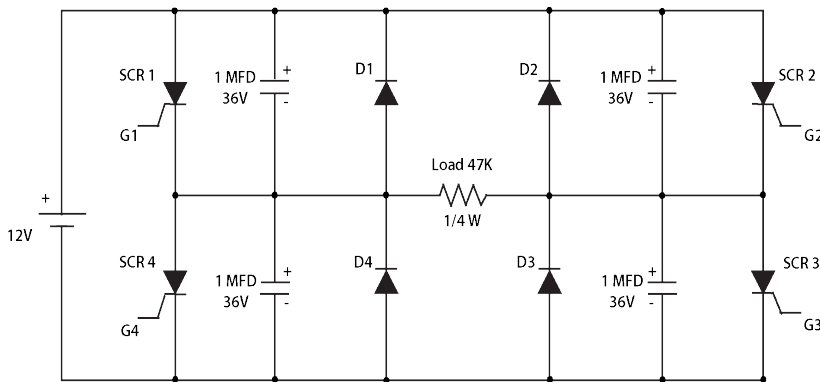

Figure 22
1. Connect the circuit as shown in Figure 22